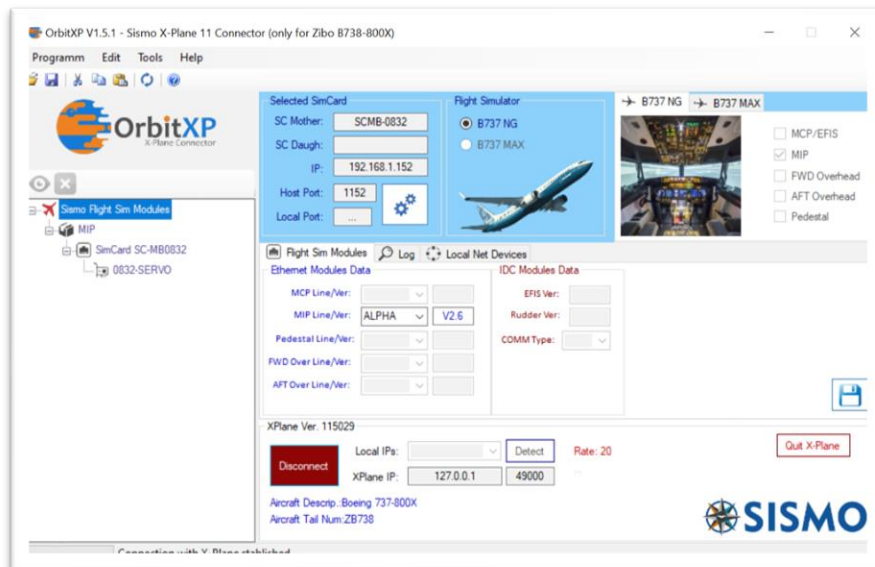
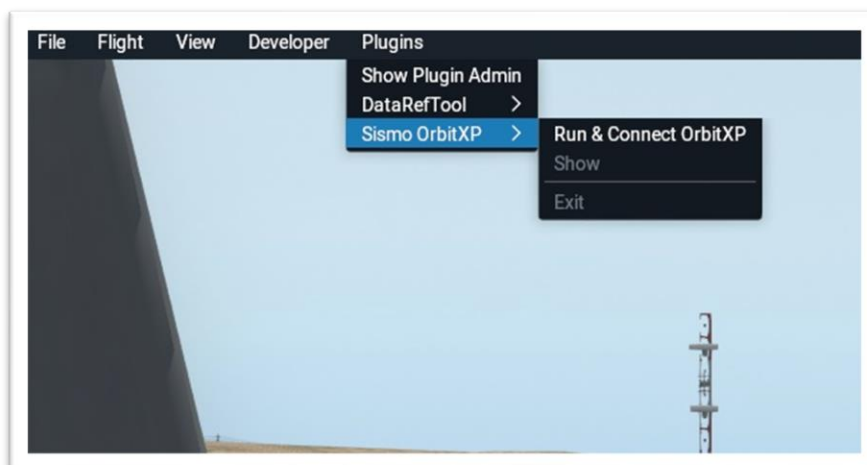

Figure-02
Figure-04
- Go to the X-Plane Menu “Plugins”, submenu “Sismo OrbitXP” and click in “Run & Connect” as shown in Figure-04. OrbitXP will be shown to verify that everything is working properly, as shown in Figure-02